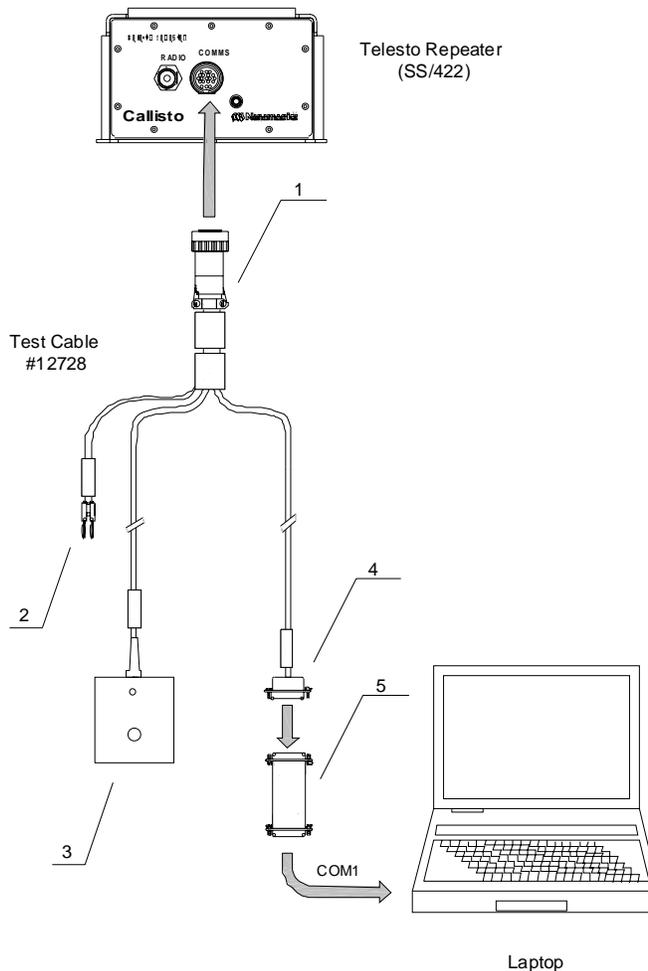

Figure 3: Telesto repeater (SS) test/configuration cable
Access to the configuration port of the transceiver is provided by connecting the unit to a PC running a terminal emulator with a special test/configuration cable. The cable is labeled “Telesto (SS)(SS/GPS/422) Config Dwg 12728A”. *Figure 3*, and following information provides an explanation of how to use the cable.
The HRD is configured to output data in RS-422 levels. The data is then sent to the Telesto repeater over the RS-422 cable as shown in *Figure 3*.